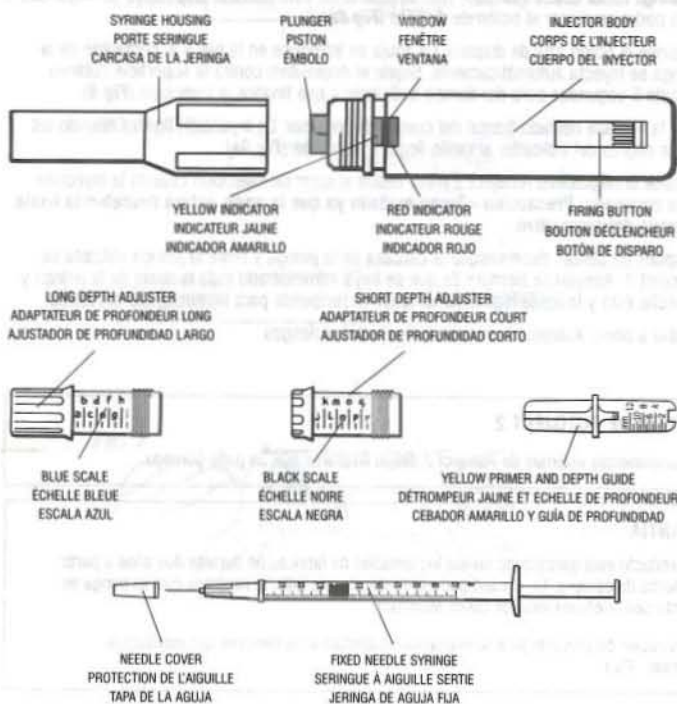

FIG 1
1. Refer to Table 1 to select by size the depth adjuster suitable for use with the particular syringe you are using and screw it into the syringe housing (Fig 1).